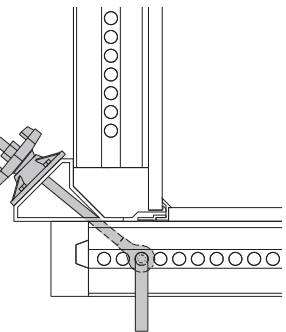

Fig. A2.09a
4. Tighten with nuts. (Fig. A2.09a)